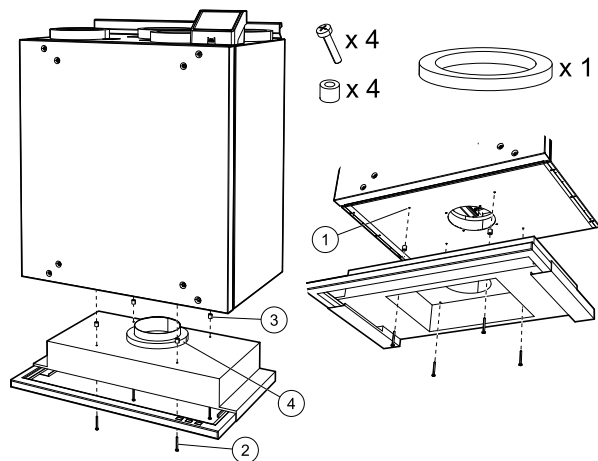

Fig. 4 Attaching the cooker hood directly to the unit
Insert included screws (figure 4, pos. 2) into the cooker hood holes, place included plastic spacers on the each protruding screw to prevent over-tightening (figure 4, pos. 3).
2. Place a circular insulation on the cooker hood connector to prevent air leaking (figure 4, pos. 4).
Screw the cooker hood directly to the bottom of the unit using prepared holes (figure 4, pos. 1).